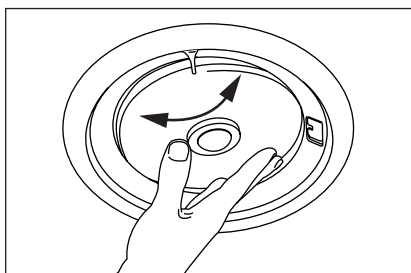

Figure 20 Directing the tweeter.
10. Direct the Woofer. The woofer is directed by gently pushing on the outer edge of the grille face. **(See Figure 20).** It will move 15° in any direction. For critical listening point the woofer to the user's favorite listening position minimizing reflections from the side walls. For surround sound or low volume background listening create more reflections and thus more ambience by directing the woofer towards the side walls.